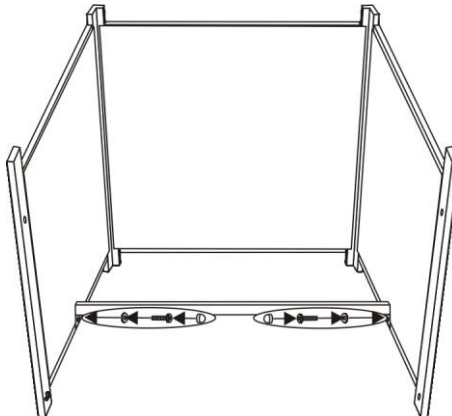

Figure 3
3. Attach the middle support to side panels by using four 1/4"x15 mm bolts and washers as shown in Fig.3. Guide bolts through holes in middle support, into pre-drilled holes in the side panels. **Hand tighten only.**